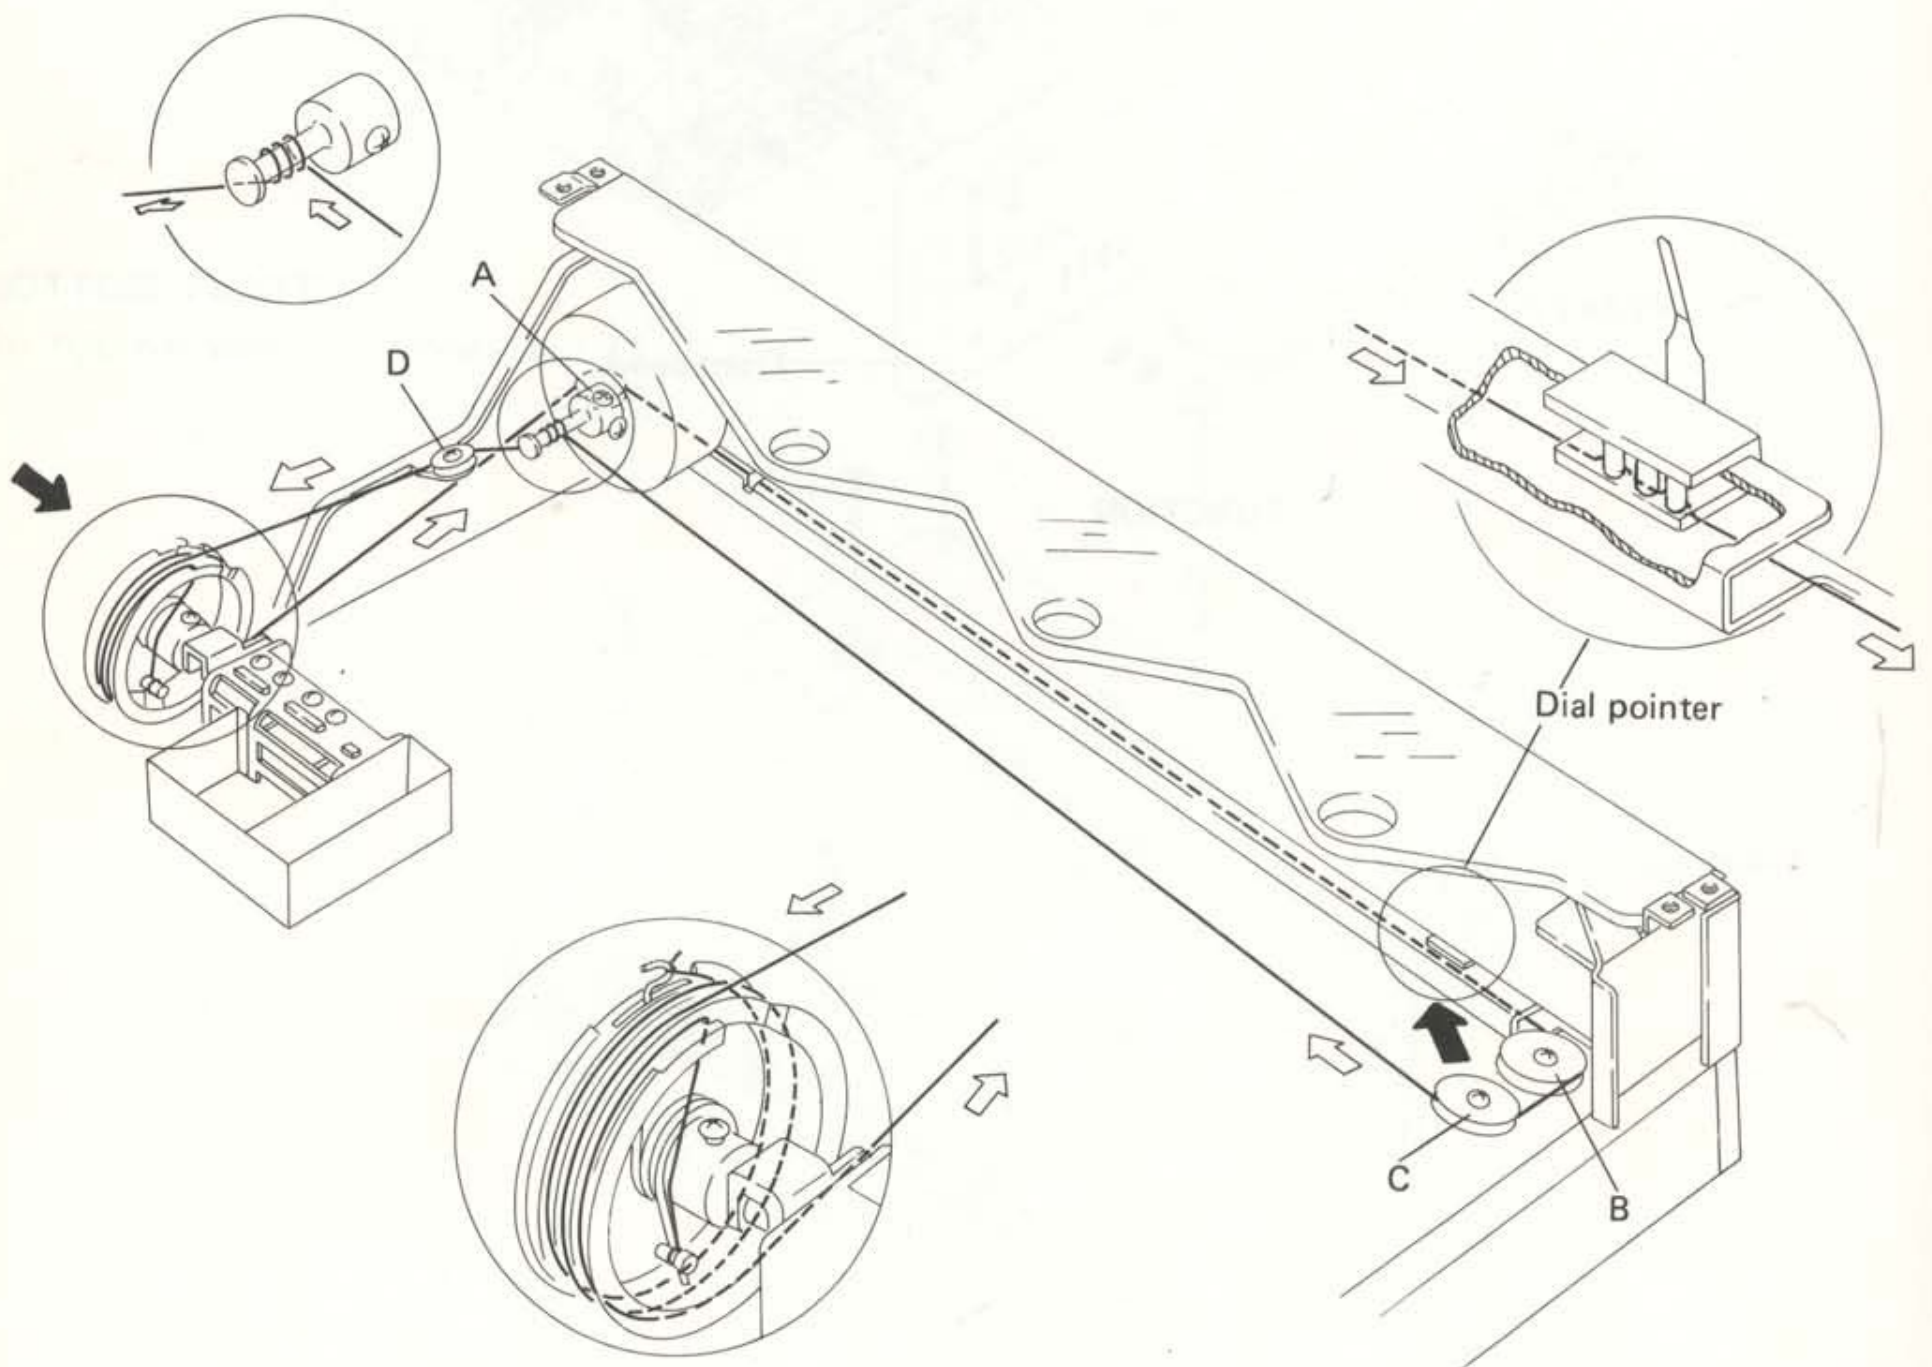

Fig. 17
2. Turn tuning drum fully clockwise (as viewed from X direction in Fig. 17).